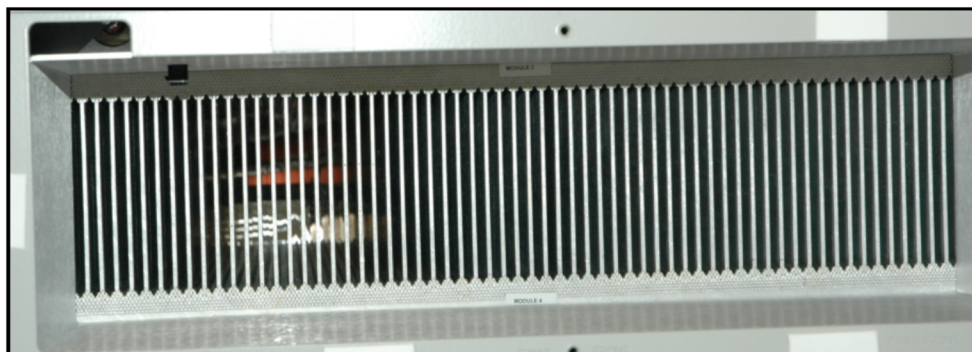

Figure 5: Heatsink Free of Debris
- Use a can of compressed air to dislodge any dust or debris lodged within the heatsink fins and the fan assembly. Ensure that the heatsink fins are free from all debris. See Figure 5.